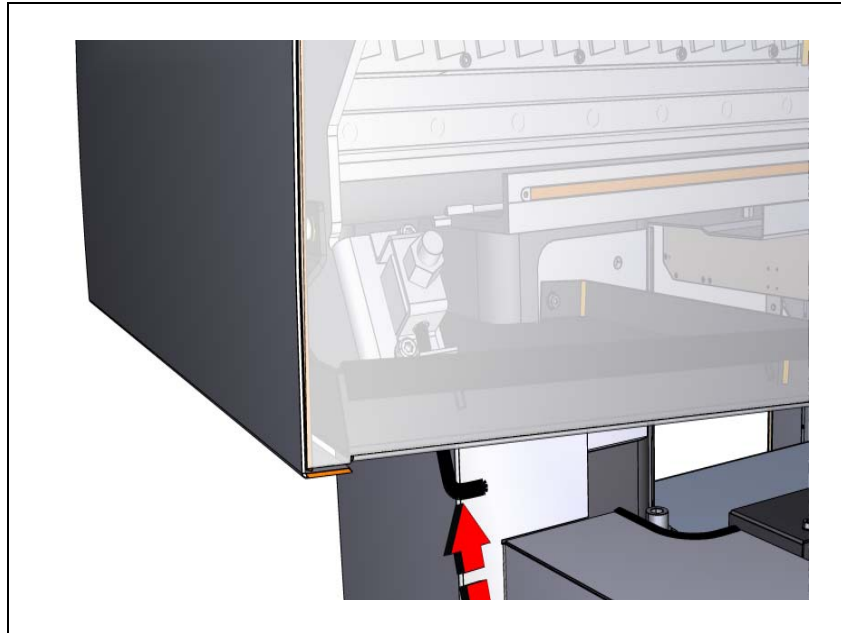

Figure 16-21. Opening the top hood.
1. Open the upper top hood by gently pressing a pointed object, for example an M6 Allen key through the holes and releasing the lock on each side of the upper hood. See Figure 16-21.